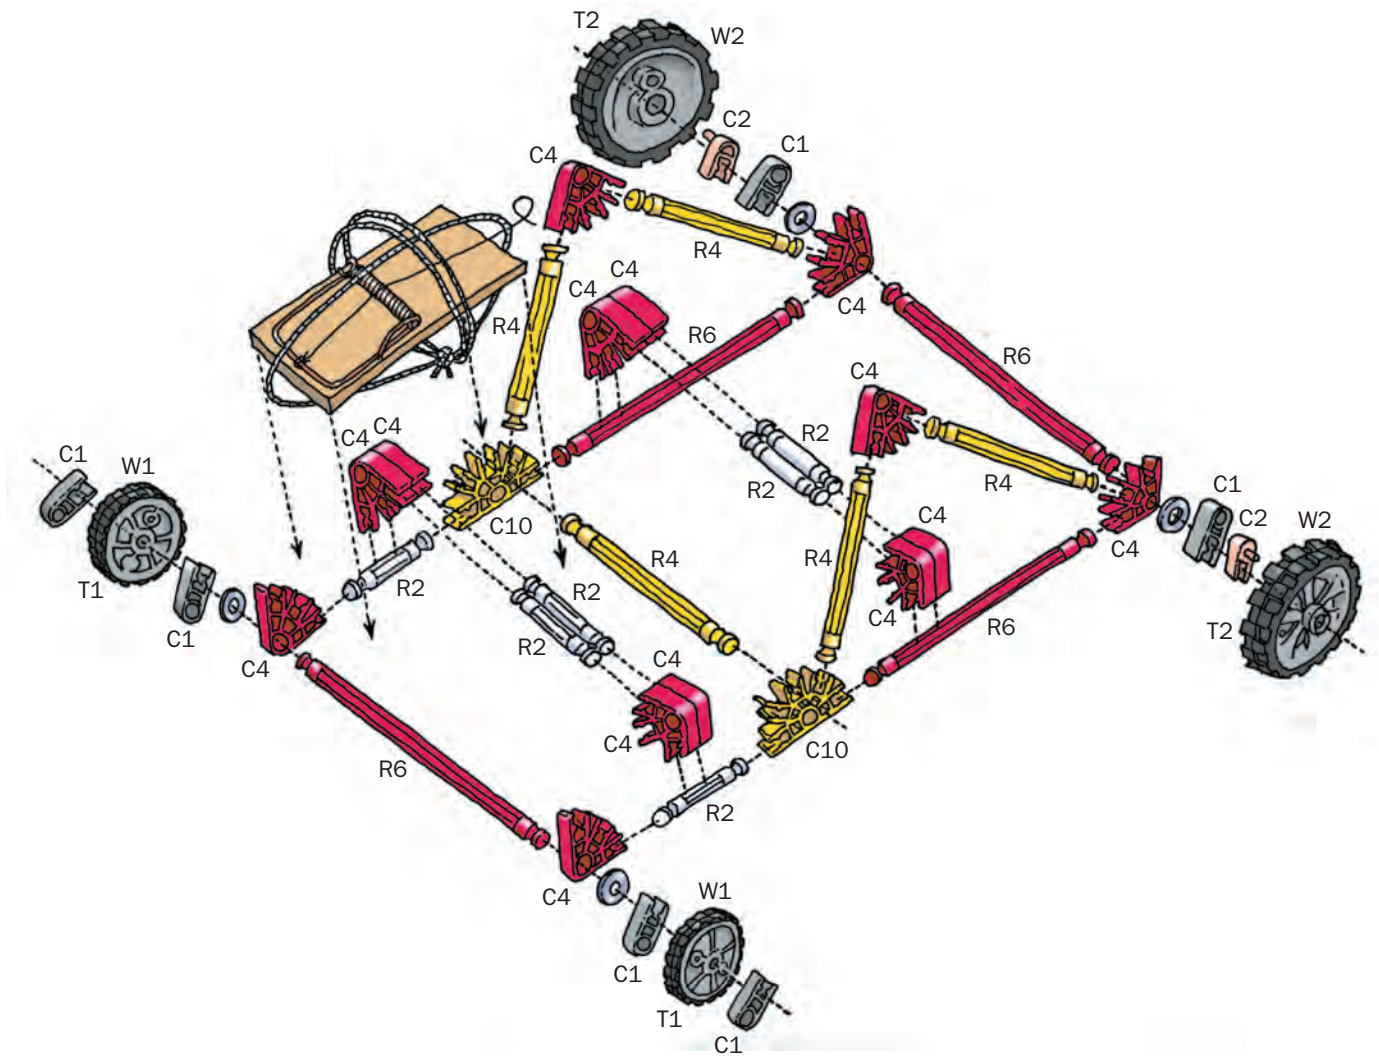

Figure 19.1 Exploded view of the mousetrap car
1. Assemble the mousetrap car as shown in Figure 19.1; the exploded diagram shows all the parts needed to assemble the car and how they connect. Figure 19.2 shows the car with the pieces properly connected. (The photo at the beginning of this lesson also shows the assembled mousetrap car.) It is important that you use a long piece of nylon line so that the axle will keep rotating after the trap has been released. If the nylon line is too short, it will unwind and then begin winding the opposite way.